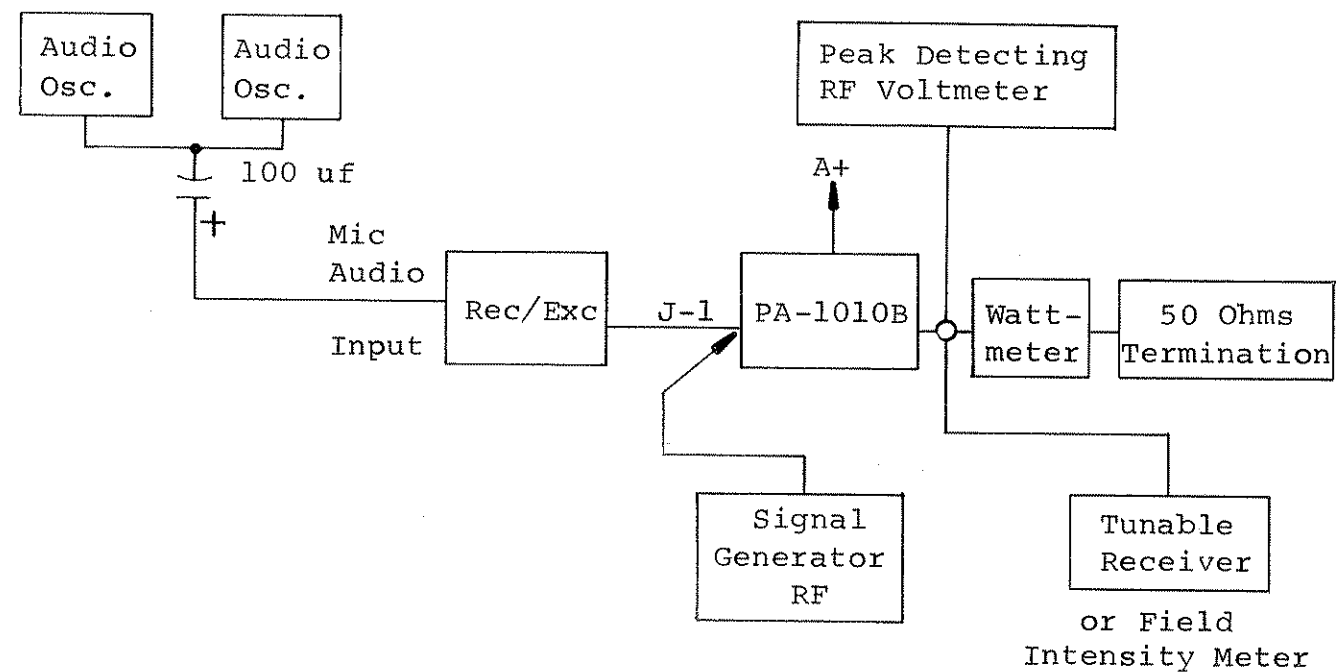

Figure VI-3
- (a) Connect equipment as shown in Figure VI-3.
- (a) Refer to Figure VI-3 for test set-up.
- a. Refer to Figure VI-3 for test set-up.
- g. Adjust R-1403 (CW) until RF voltmeter indicates 79 volts.
- m. Key transmitter and adjust R-1404 (CW) until RF voltmeter indicates 39V.